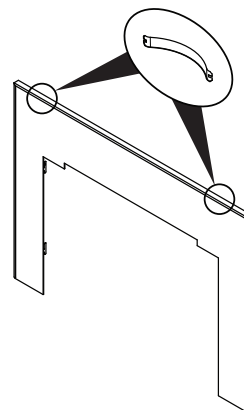

Figure 21.3
5. Install two steel springs at the top on each side and between the flat surround and the assembled trim kit as shown in Figure 21.3.